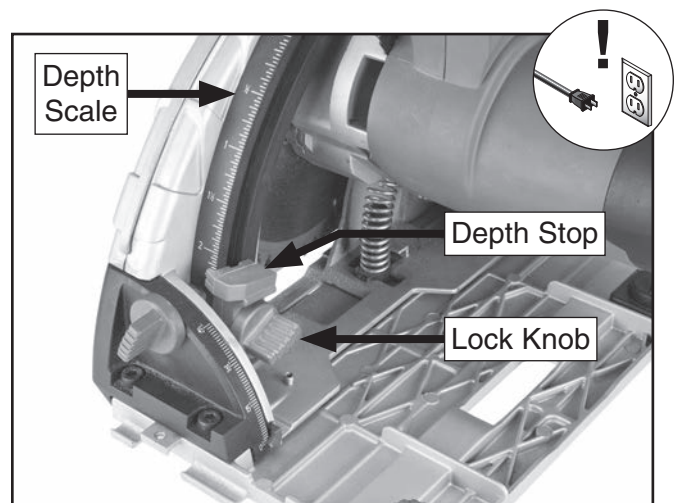

Figure 12. Depth-setting components.
1. Loosen lock knob and adjust depth stop along scale to maximum depth desired for cut (see **Figure 12**).